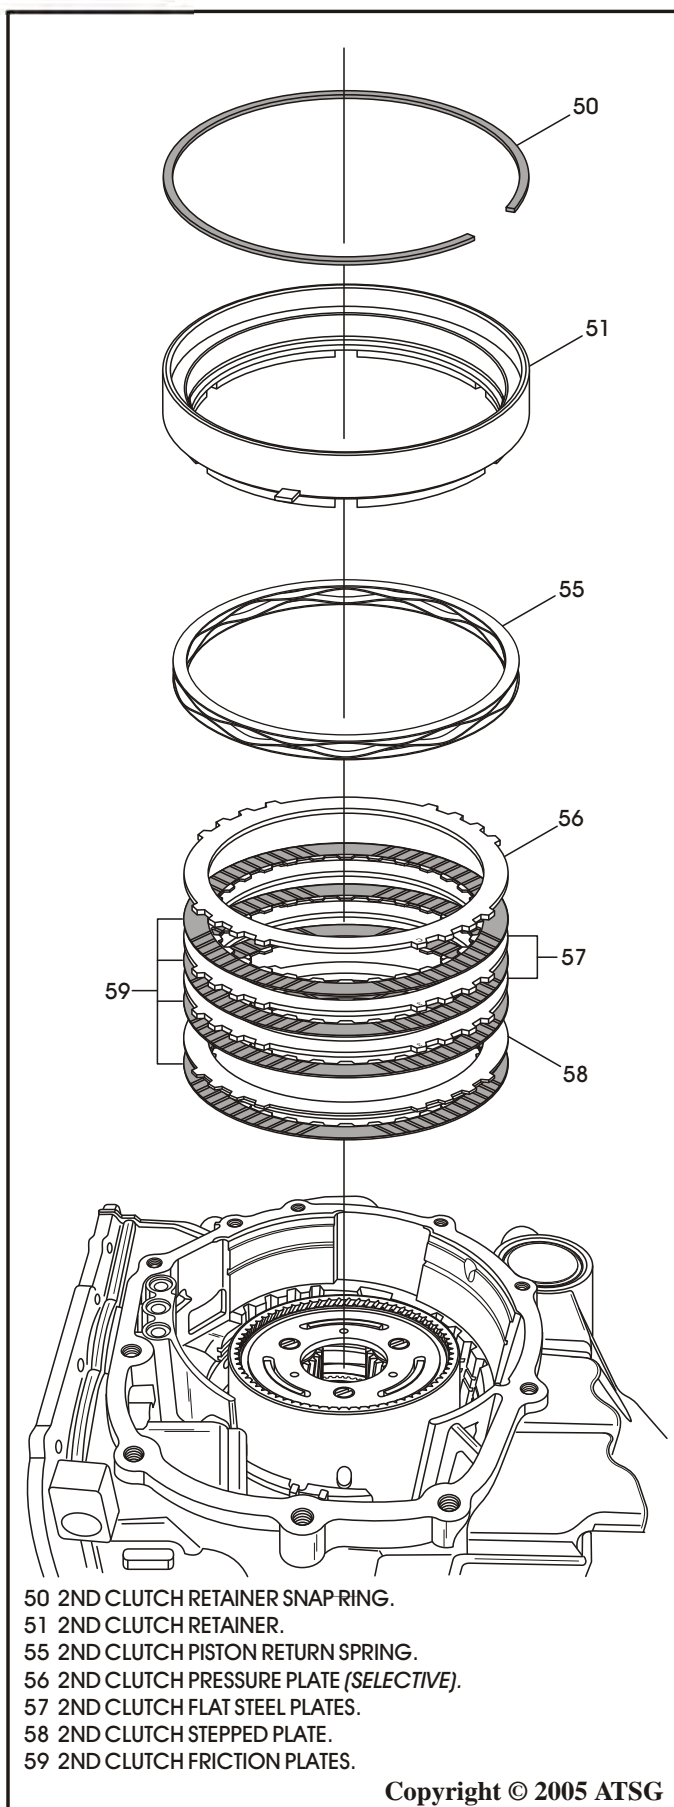

Figure 48
45. Remove snap ring retaining the 2nd clutch piston retainer, as shown in Figure 48.
46. Remove the 2nd clutch retainer and piston assembly, as shown in Figure 48.
48. Remove the 2nd clutch piston return spring, as shown in Figure 48.
49. Remove the 2nd clutch pack from the transaxle case, as shown in Figure 48.